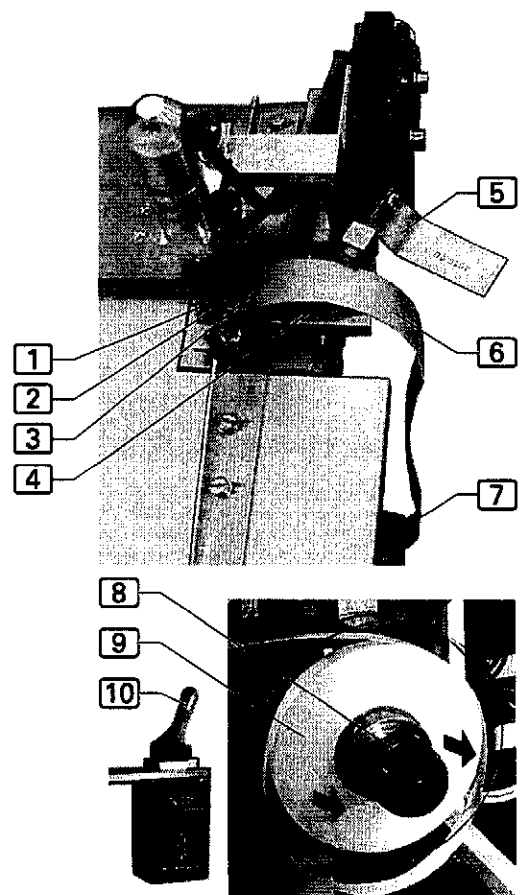

Fig. 15
Fig. 15: The bonding strip rolls off a drum. The separator removes the strip from the backing tape and pushes it over the lower stamp ① of the heating module. To insert the bonding strip:
1. Remove the disk ⑧ from the drum; the disk is merely pushed on.
2. Attach the bonding strip roll ⑨ to the drum and push the disk back onto the drum.
3. Rotate the pressure pad ⑤ of the guide ④ sideways.
4. Separate the bonding strip from the backing tape ⑥ and route the strip through the slot ③.
5. Rotate the pressure pad back onto the guide and cut the bonding strip at the edge ② of the guide.